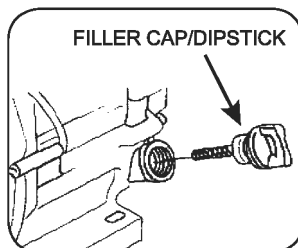

Figure 7
2. Remove the oil fill cap/dipstick to add oil. (See **Figure 7**)